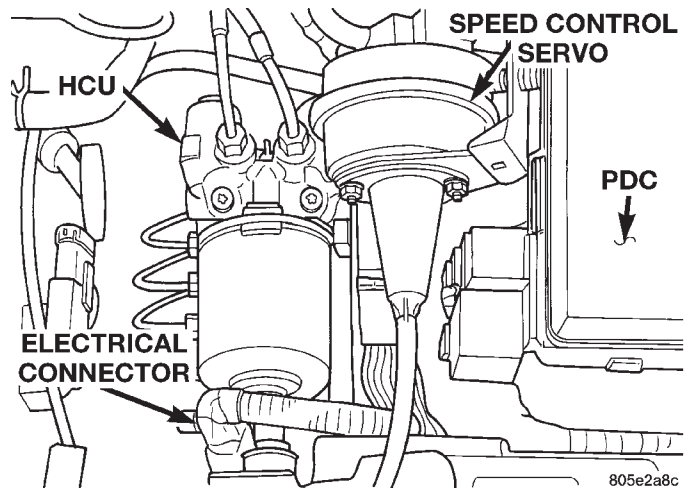

Fig. 20 HCU Electrical Connections
- (1) Disconnect the negative cable from the battery and isolate it from the post of the battery.
- (2) Remove the heat shield covering the HCU.
- (3) Disconnect the pump motor electrical connector from the HCU (Fig. 20).
(4) Connect the vehicles wiring harness connector on the pump motor connector of the HCU (Fig. 20).